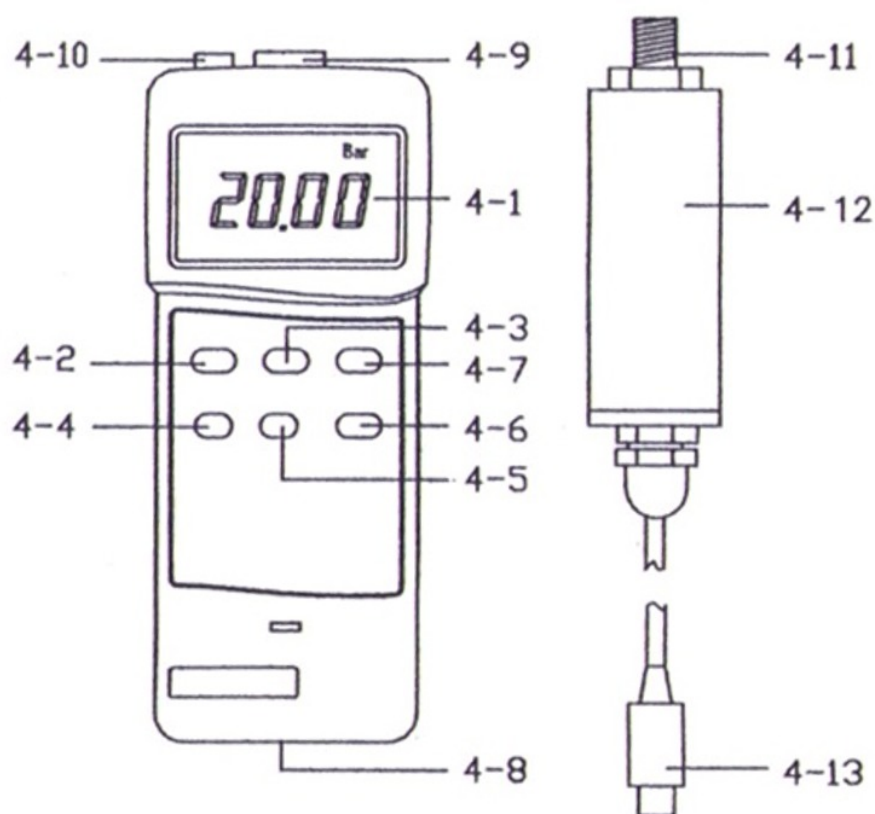

Fig. 1
- * Data Hold Button (4–3 Fig. 1)
- * " Max./Min. " Button (4–4 Fig. 1)
- * Sensor Type Button (4–7 Fig. 1)
- 3) Not release the above 3 keys, , push the " Power Button " (4-2 , Fig. 1) once a while. all the LCD segment will lit. Release the 3 buttons, the display will show the memorized sensor type.
- 4) Push the " Sensor Type Button " (4-7, Fig. 1) can select the different sensor type (2, 5, 10, 20, 50, 100, 200 Bar). Until the display show the desired sensor type, push the the " Zero button " (4-6, Fig. 1) to enter the desired sensor type. The new setting sensor type will memorize into the circuit even power off.
- 1) Plug in the " Plug of Pressure Sensor " (4–13, Fig. 1) to meter's " Sensor Input Socket " (4–9, Fig. 1)
- 2) Power on the meter by push the " Power Button " (4–2, Fig. 1)
- 3) Push the " Sensor Type Button " (4–7, Fig 1) to check if the meter's sensor type is same as the external pressure sensor.
- 4) Push the " Unit Button " (4–5, Fig. 1) to select the unit (Bar, Psi, Kg/cm², mm/Hg, inch/Hg, meter/H₂O, inch/H₂O, Atmosphere).
- 5) Zero the meter by push the " Zero Button " (4–6, Fig. 1), the display reading will change to zero value.
- 6) Connect the " Port Connector of Pressure Sensor " (4–11, Fig. 1) to the installation that intend to measure the pressure value that into the sensor.
During the measurement, pushing the " Data Hold Button " (4–3, Fig. 1) will freeze the measured value & display will indicate " HOLD " symbol.
* The DATA RECORD function displays the maximum and minimum readings. To start the DATA RECORD function, press the " Max./Min. Button " (4–4, Fig. 1) once. " REC " symbol will appear on the LCD display.
- (a) Push the " Max./Min. Button " (4-4, Fig. 1) once, the " Max " symbol along with the maximum value will appear on the display.
To de-activate this feature, Select the memory record function during measurement, by pressing the " Max./Min. " button (4-4, fig. 1).
" Hold Button " (4–3, Fig. 1)
" Max./Min. Button " (4–4, Fig. 1)
- 3) Still hold the " Hold Button " & the " Max./Min. Button ", at same time push the " Zero Button " (4–6, Fig. 1) once a while, the display will flash one time & return to zero as :
" Hold Button " (4-3, Fig. 1)
" Max./Min. Button " (4-4, Fig. 1)
- * *Push the " Sensor Type Button " (4-7, Fig. 1) once will add one count to the down display value.*
- * *Push the " Unit Button " (4-5, Fig. 1) once will decrease one count to the down display value.*
Now the display flash, within 5 second should push the " Sensor Type Button " (4–7, Fig. 1). Now the new gain value will memorize into the circuit.
The instrument features an RS232 output via 3.5 mm Terminal (4–10, Fig. 1).